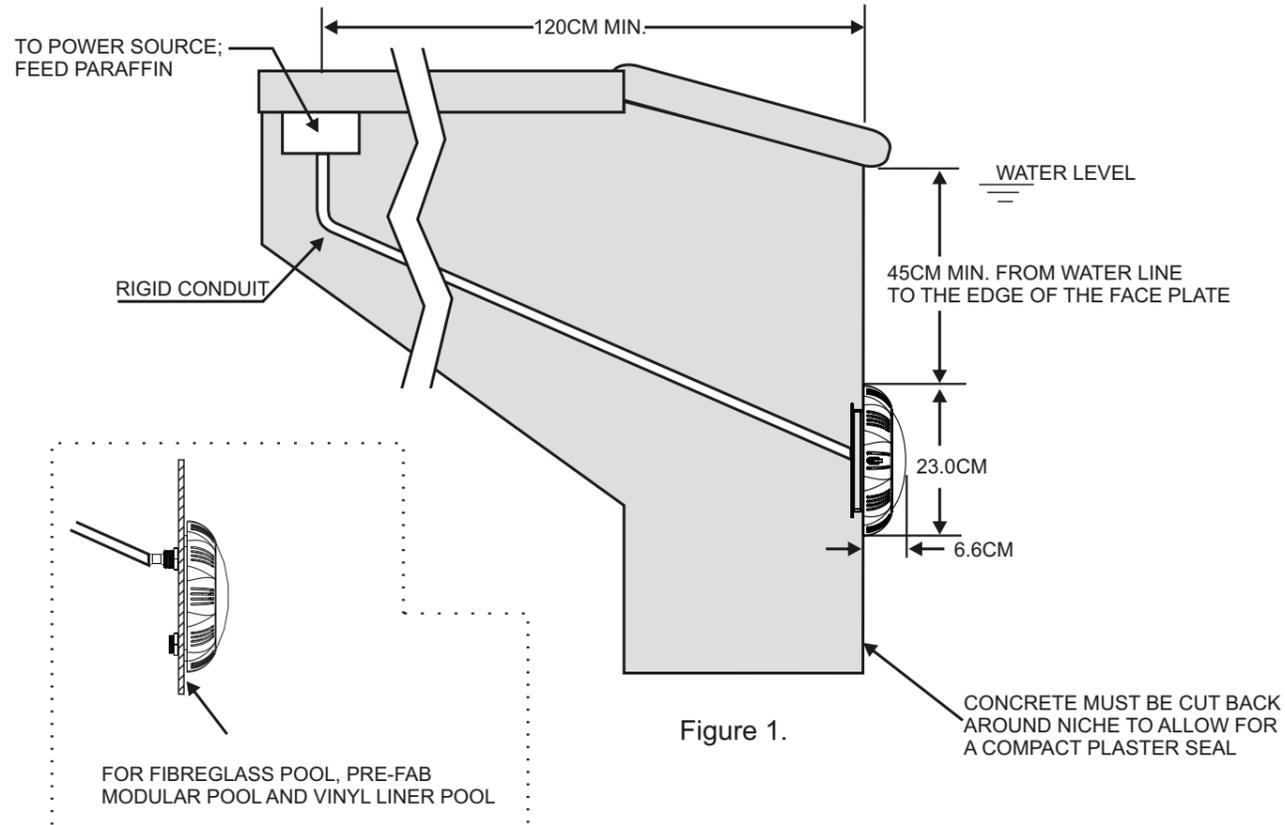

Figure 1.
### A. Preparatory steps which must be completed by the electrician before light is installed, see Figure 1.
- a. The junction box, or the low voltage transformer for 12 volt Underwater Light model is to be located at least 120CM from the edge of the pool, see Figure 1.
- c. The mounting bracket must be properly installed so that the top edge of the Underwater Light lens is at least 45CM below the surface of the water in the pool, see Figure 1.
1. Locate position on a vertical wall where light is to be installed. The edge of the face plate must be 45CM below normal water level, see Figure 1.